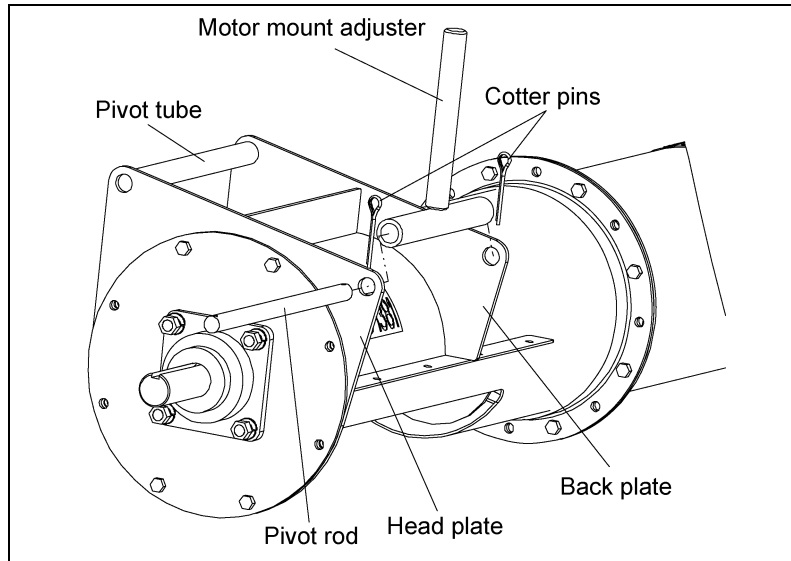

Figure 4D
2. Insert pivot rod through the tube plates and motor mount adjuster. Secure in place with two (2) 3/16" x 2" cotter pins. (See Figure 4D.)